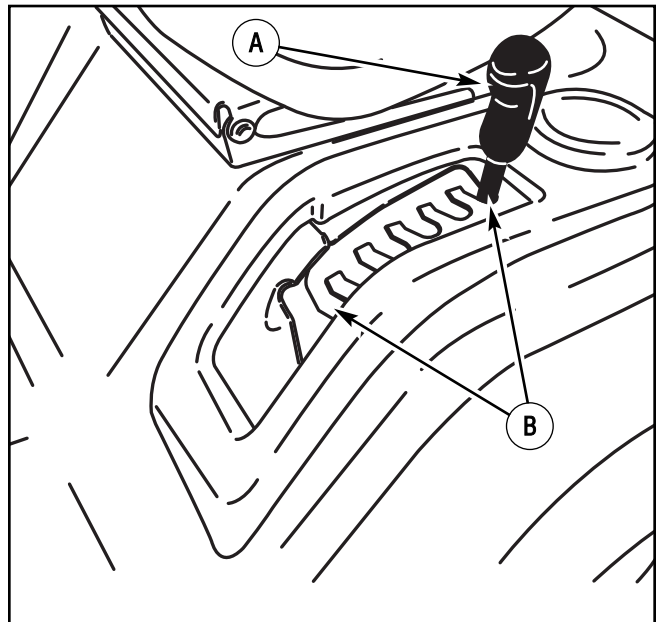

Figure 37: Cutting position
7. Raise the deck lift lever from the LEVEL ADJUSTMENT position to a CUTTING HEIGHT position (Figure 37).